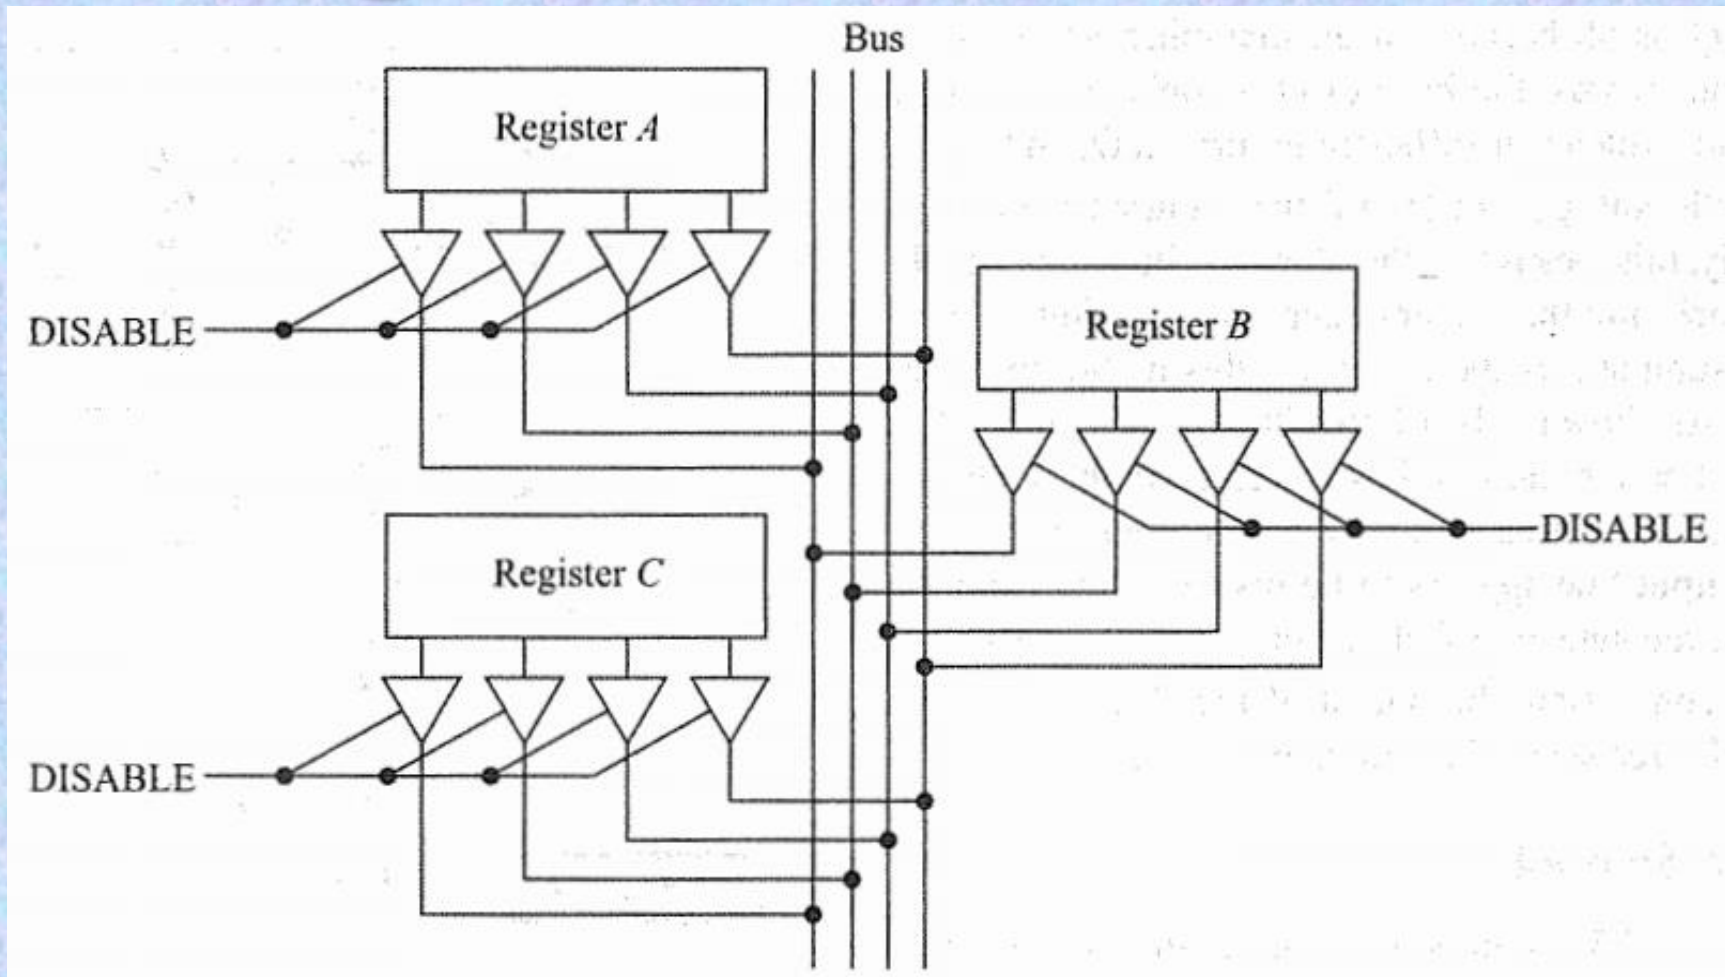

Fig. 1.26 Three-state bus control
- Figure 1.26 shows some registers connected to a common bus. The three-state buffers control the flow of binary data between the registers. For instance, if we want the contents of register A to appear on the bus, all we have to do is make DISABLE low for register A but high for registers B and C. Then all the three-state switches on register A are closed, while all other three-state switches are open. As a result, only the contents of register A appear on the bus.